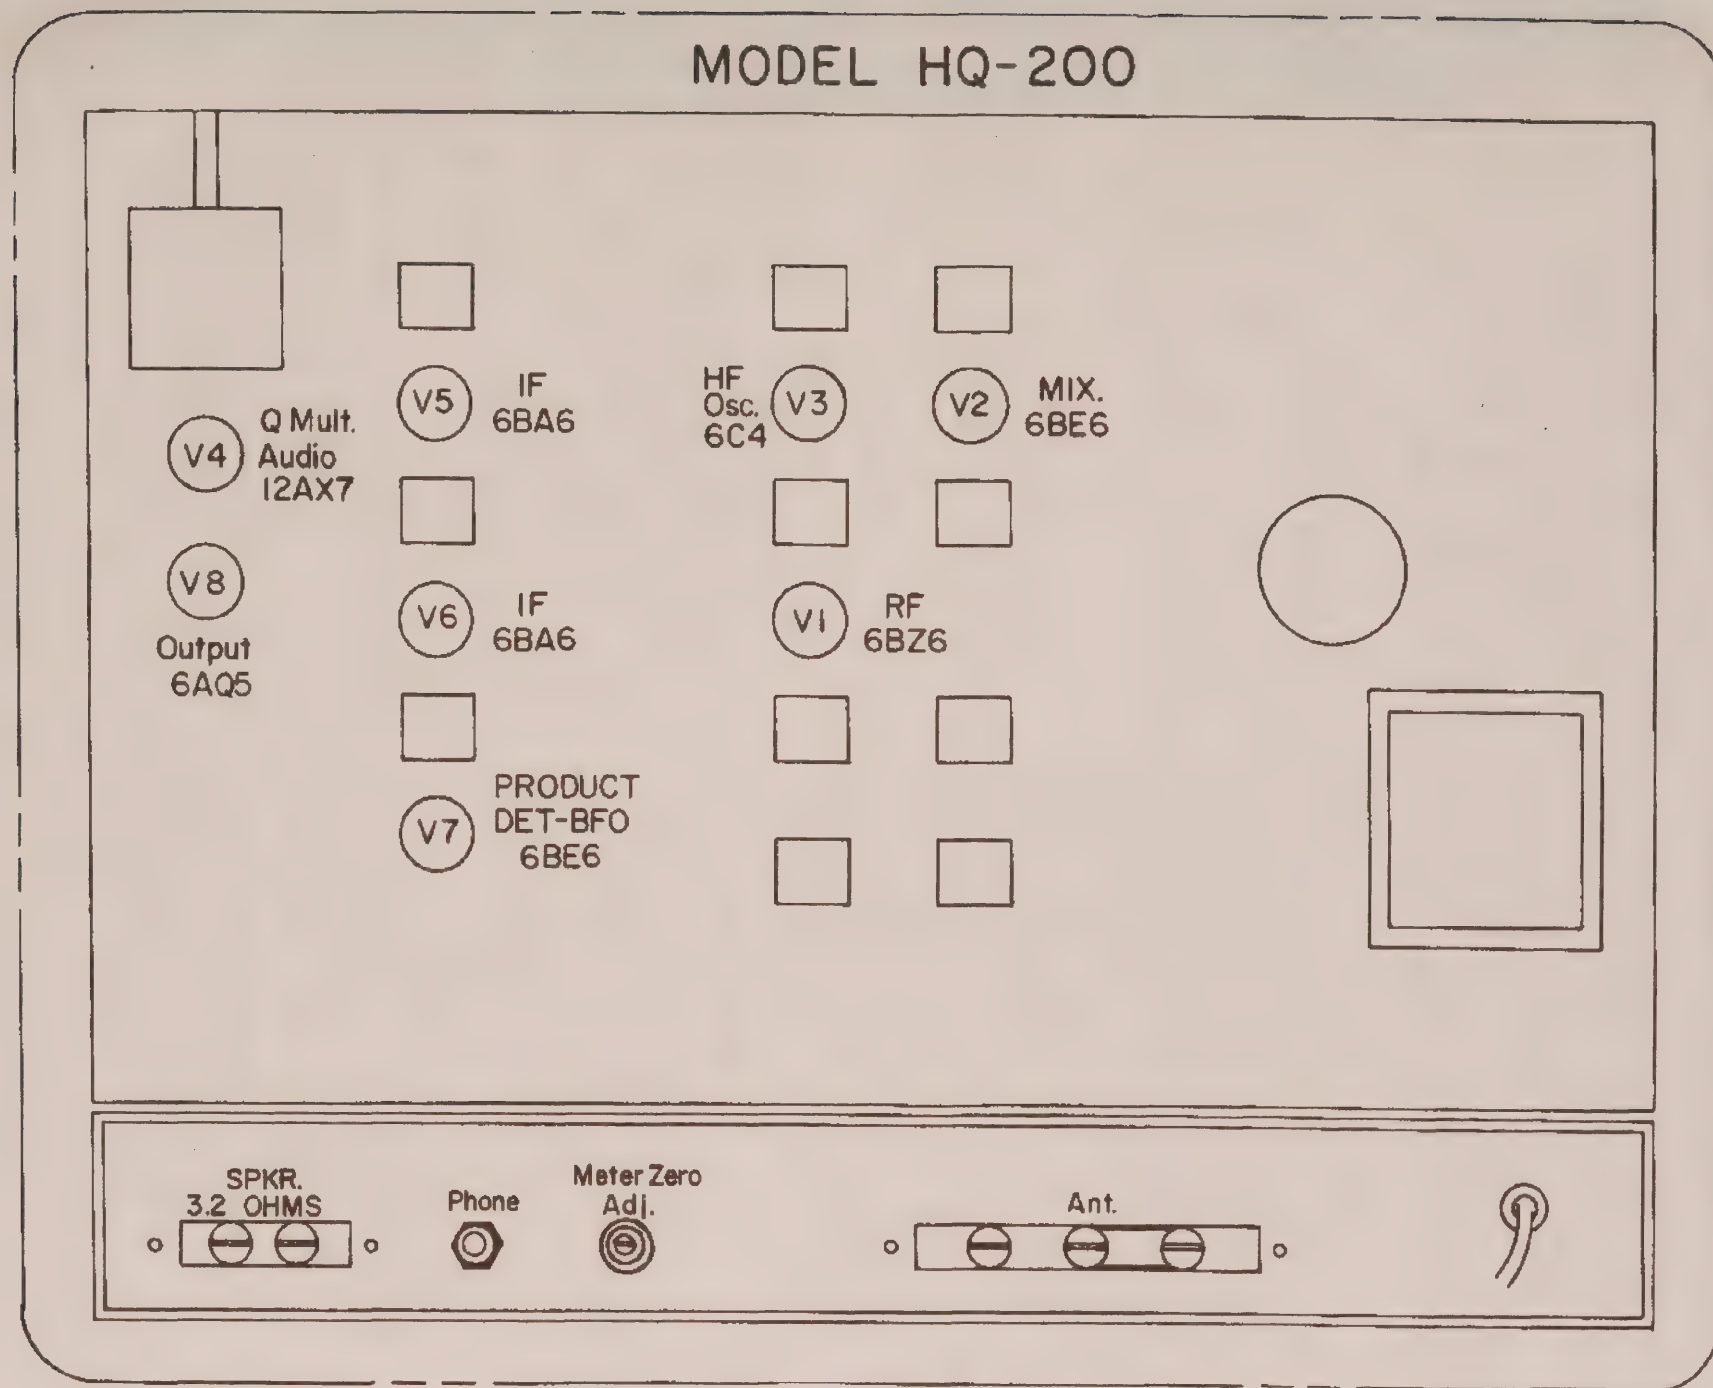
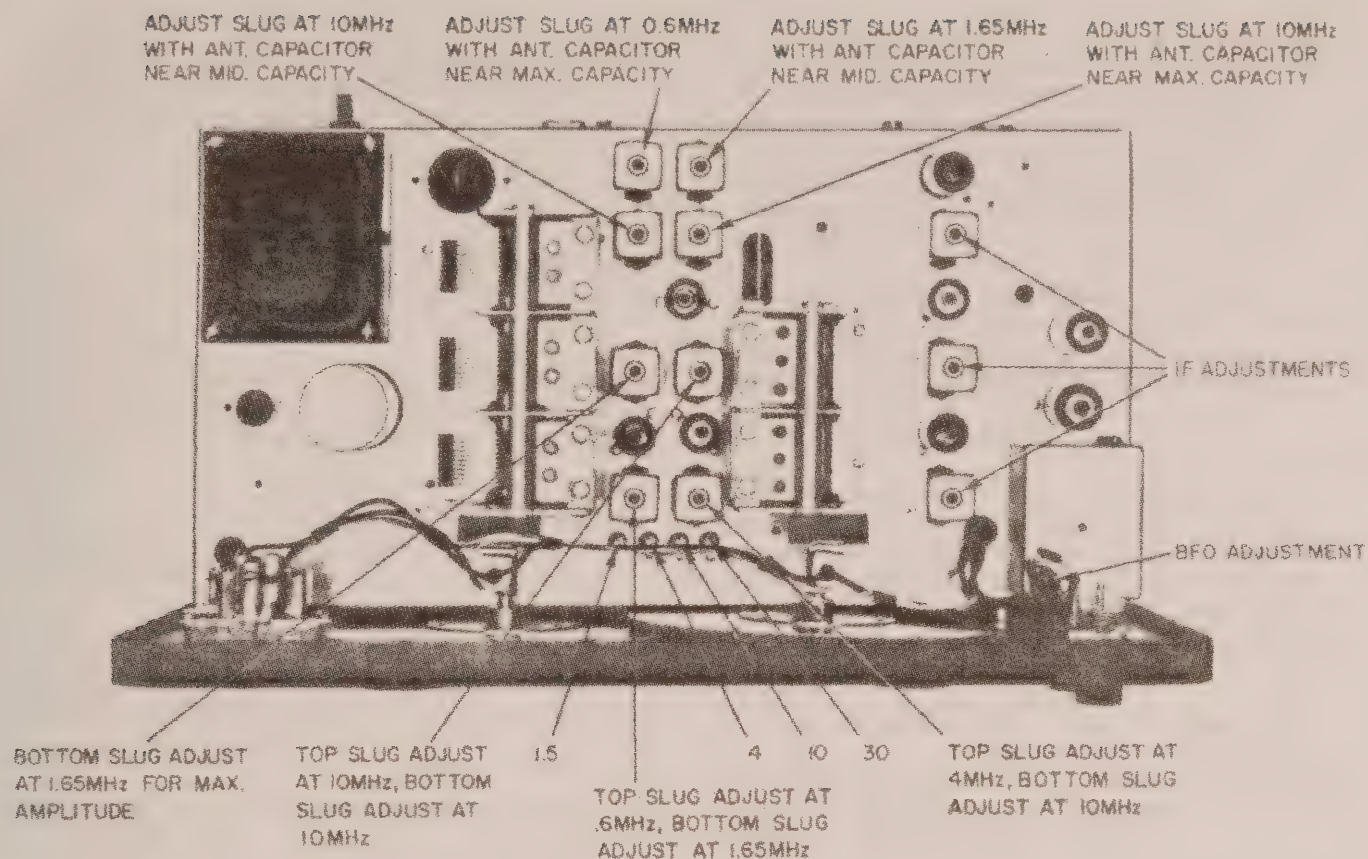

FIGURE 4-1. TUBE LOCATION.
FIGURE 4-2. HQ 200 TOP VIEW.
D. During alignment, adjust the generator output to prevent over-loading. Adjust each of the three IF transformers for maximum meter reading. Topside adjustments (Figure 4-1) are secondaries or grid circuits; bottom of chassis adjustments (Figure 4-2) are primaries or plate circuits. The reading on the voltmeter should be kept below -3.0 volts.
B. All RF and oscillator slug adjustments are made from the top of the shield cans. See Figure 4-1.
Figure 4-1 indicates the particular adjustment for each band of the receiver and the frequency at which they are to be adjusted.
B. Check to see that the frequencies at or near the alignment frequencies are "on the line". If not, make minor adjustments of the slugs and trimmers (Figure 4-1) to make them correct.